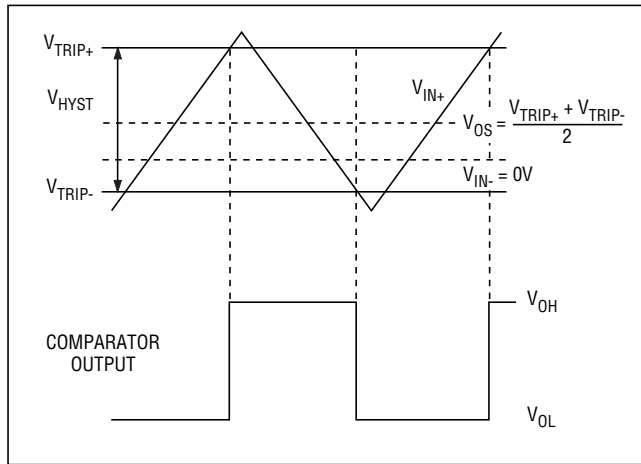

Figure 1. Input and Output Waveforms, Noninverting Input Varied
- Note 1:** Trip Point is defined as the input voltage required to make the comparator output change state. The difference between upper ( $V_{TRIP+}$ ) and lower ( $V_{TRIP-}$ ) trip points is equal to the width of the input-referred hysteresis zone ( $V_{HYST}$ ). Specified for an input common-mode voltage ( $V_{CM}$ ) of 0V (see Figure 1).
- Note 2:** Input Offset Voltage is defined as the center of the input-referred hysteresis zone. Specified for  $V_{CM} = 0V$  (see Figure 1).
Adding hysteresis to a comparator creates two trip points: one for the input voltage rising and one for the input voltage falling (Figure 1). The difference between these two input-referred trip points is the hysteresis.
Figure 1 illustrates the case where IN- is fixed and IN+ is varied. If the inputs were reversed, the figure would look the same, except the output would be inverted.